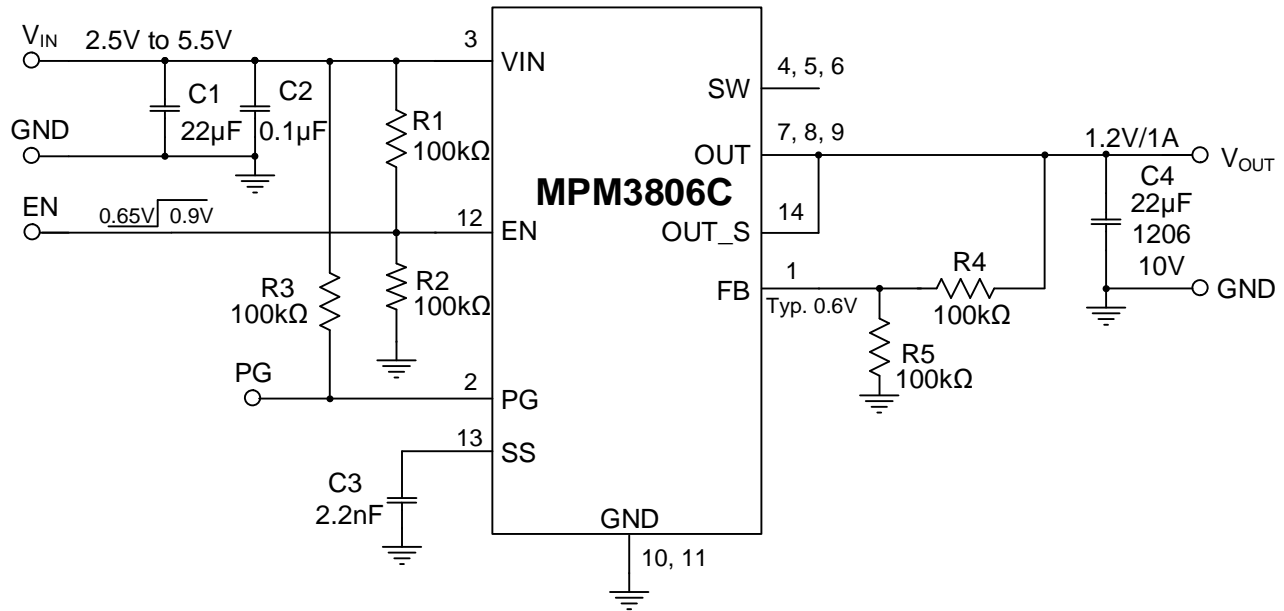

Figure 9: Typical Application Circuit (Adjust Output Version, $V_{OUT} = 1.2V$)
11) The recommended PCB layout is based on Figure 9 on page 23.